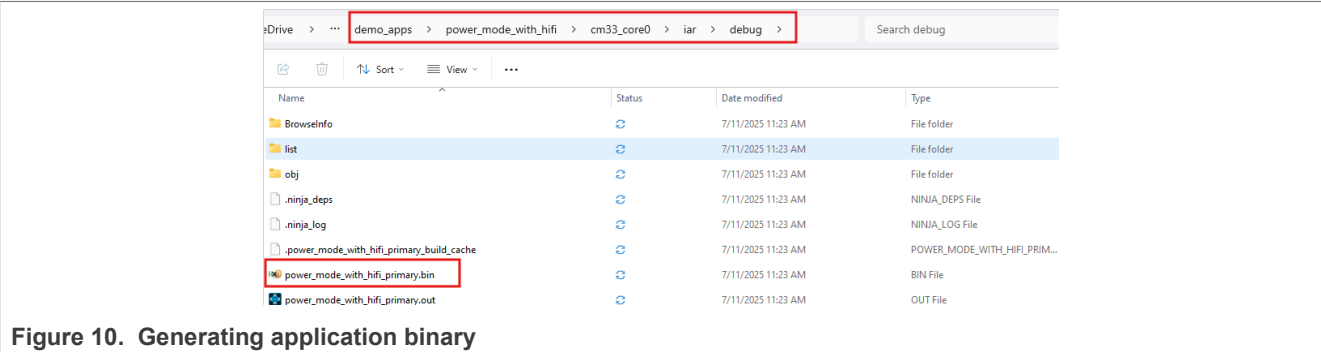

Figure 10. Generating application binary
- To generate the binary file power_mode_with_hifi_primary.bin, as shown in Figure 10, compile the primary project.